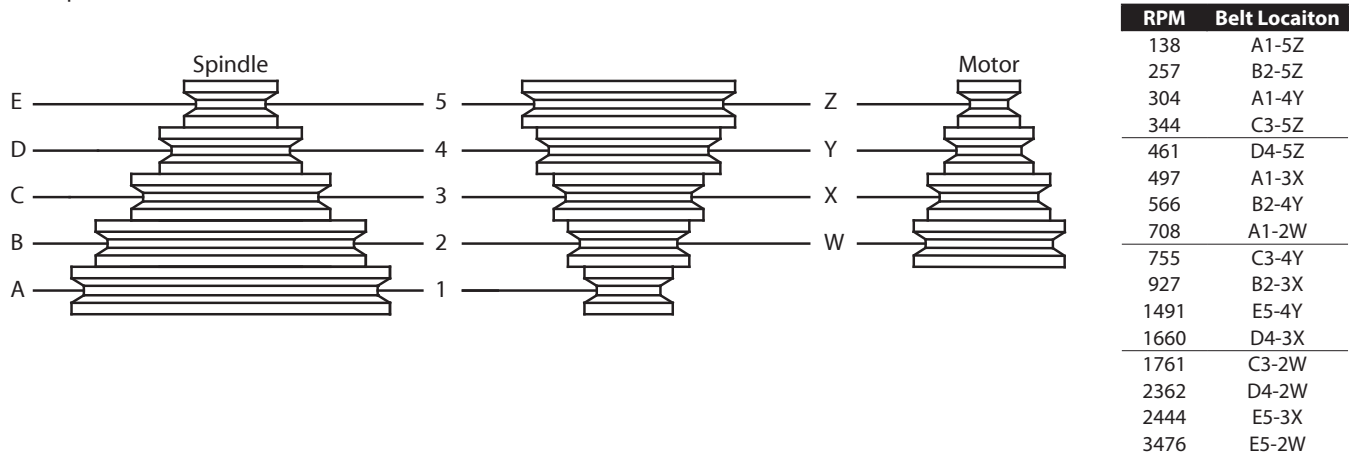

Figure 5 – Spindle Speed Adjustment
Refer to Figures 5 and 8.
- To change spindle speed, loosen motor lock handle (Ref. No. 187), pivot the motor toward front of drill press. This will loosen the belt and permit relocating the belt to the desired pulley groove for the required spindle speed (See Figure 5).